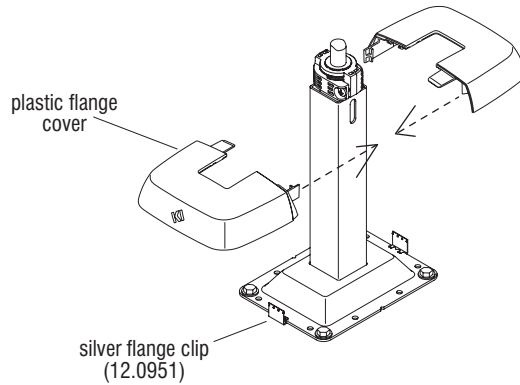

Figure 2
5. Jury Base flange covers are prepared at the factory to fit correctly around the rectangular base. Snap the flange covers together around the base and push down to the floor to engage the flange clips (Figure 2).